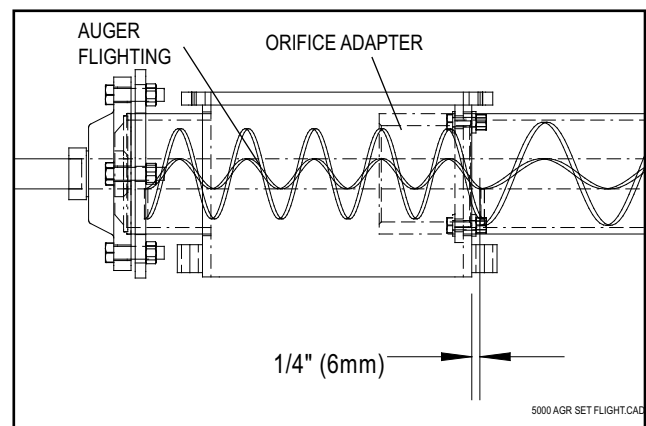

Figure 11.48 - Set Flighting Offset
2. Slide the metering auger shaft (#2) in until the flighting bottoms out on the metering orifice (#6), then tap the auger shaft out 1/4" (6 mm). Refer to *Figure 11.48*.